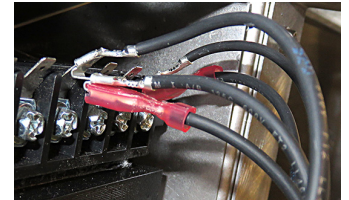

Figure 23
24. Attach a supplied piggyback connector to the connector removed in the previous step. Connect the black wire, from the new basketlift harness, to the added piggyback and reattach to the transformer (see Figure 23).
25. Repeat steps 24 and 25 for the right line voltage piggyback connector, connected to the transformer, to attach the white wire from the harness, to the transformer (see Figure 23).